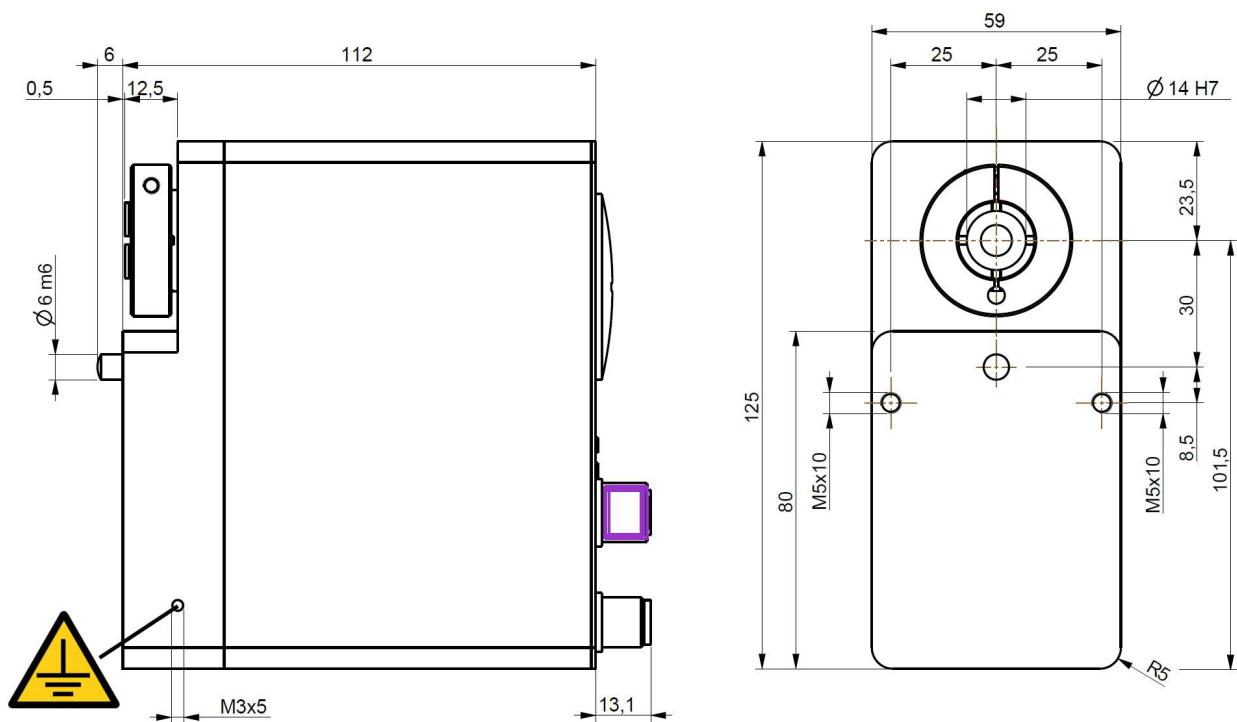
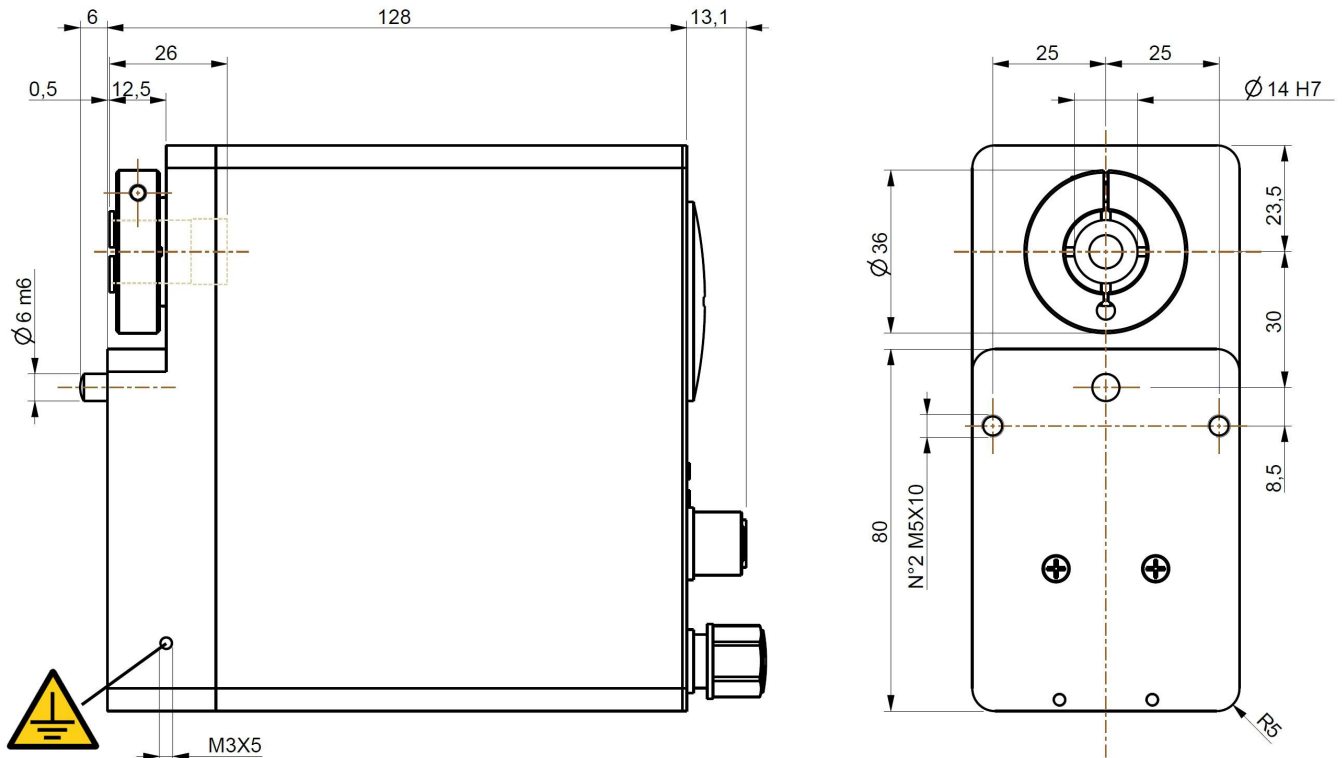

Figure 1 - RD1A unit – Overall dimensions
Figure 2 - RD12A unit – Overall dimensions
4.1 Ground connection (Figure 1 and Figure 2)
To minimize noise connect properly the frame to ground; we suggest using the ground screw provided in the frame (see Figure 1 and Figure 2). Connect properly the cable shield to ground on user's side. Lika's EC- pre-assembled cables are fitted with shield connection to the connector ring nut in order to allow grounding through the body of the device. Lika's E- connectors have a plastic gland, thus grounding is not possible. If metal connectors are used, connect the cable shield properly as recommended by the manufacturer. See also note in the next paragraph. Anyway make sure that ground is not affected by noise. It is recommended to provide the ground connection as close as possible to the device.